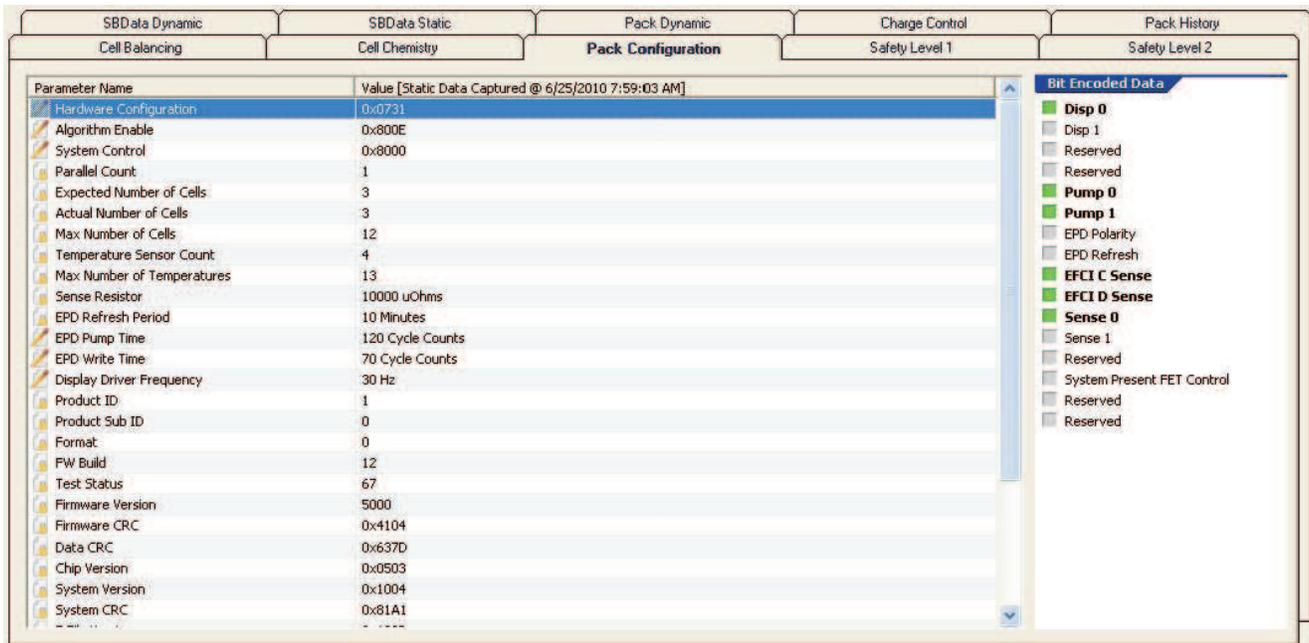

Figure 2. Pack Configuration Tab in the bqWizard™ Software
6. Select the Pack Configuration Tab. This brings the Hardware Configuration and the Sense Resistor registers into view. Note that the Bit Encoded Data shown in Figure 2 is for viewing only.